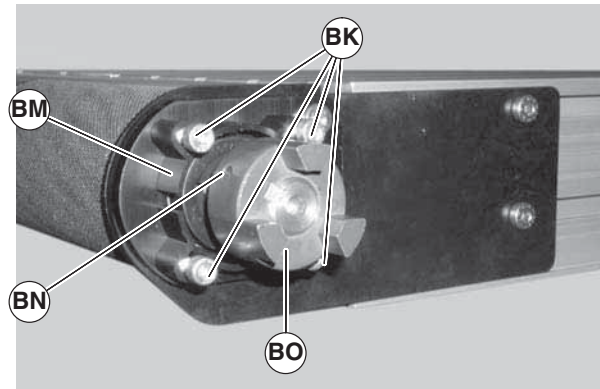

Figure 46
- d. Remove the four (4) lock screws (Figure 46, item BK) and the short side drive guard (BM).
2. Loosen set screw (Figure 46, item BN) and remove 3-jaw coupling (BO).